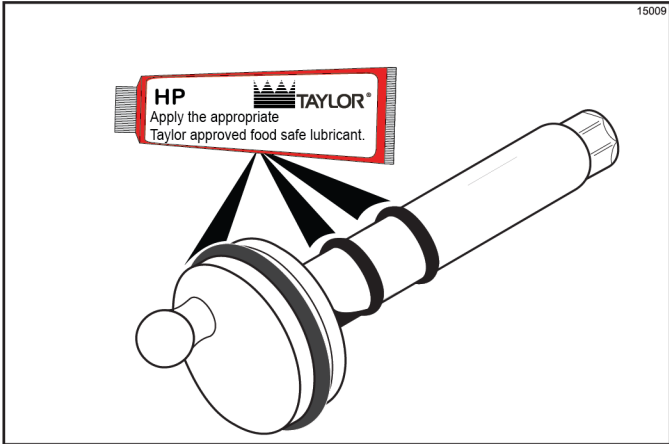

Figure 6-33
13. Slide the large black O-ring and the two smaller black O-rings into the grooves on the driveshaft. Thoroughly lubricate the O-rings and shaft. **Do not** lubricate the hex end of the shaft. (See Figure 6-33.)